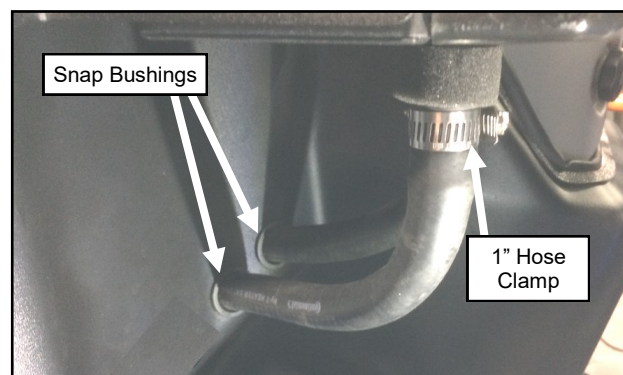

Fig. 17.2 (Heater Hose Routing)
17.2 Snap provided 3/4" bushings into the plastic radiator shroud from the inside. Cut (2) 17" pieces of the provided 5/8" diameter heater hose. Slide (2) 1" hose clamps on the end of the (2) cut hoses. Slide the hoses onto the end of the (2) heater nipples and tighten down the hose clamps. Next, slide the (2) hoses through the snap bushings. Make sure not to kink the hose. See Figure 17.2.